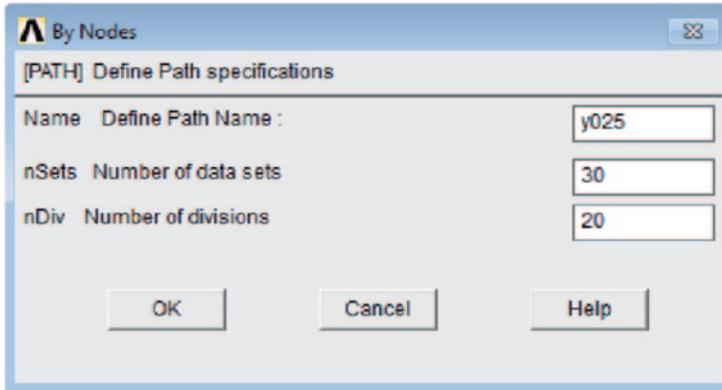

Fig. 5.28 Defining path specifications
- *Define Path By Nodes* dialog box appears, as shown in Fig. 5.28; enter a unique name (e.g., **y025**) identifying the path; click on **OK**.